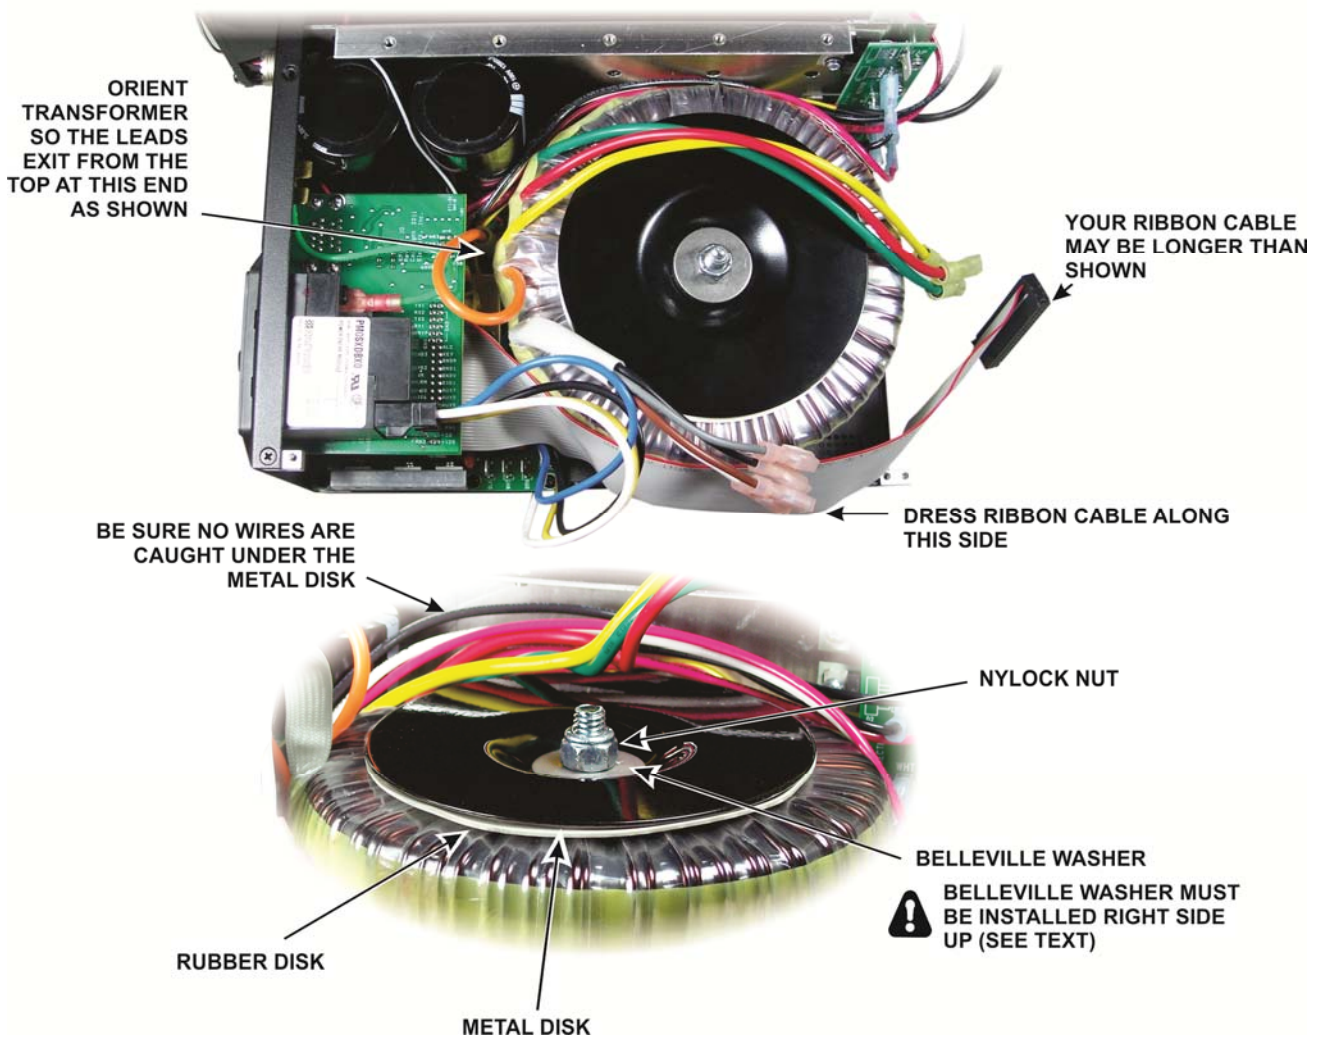

Figure 51. Mounting the Power Transformer.
□ Orient the transformer as shown in Figure 51, taking care not to dislodge the bumpers. Add the second rubber disk and metal disk as shown. Orient the metal disk so the center depression goes down into the center of the transformer. Add the Belleville washer and secure the assembly with the Nylock nut. Tighten the nut enough to hold the hardware in place (you will tighten the nut further later).